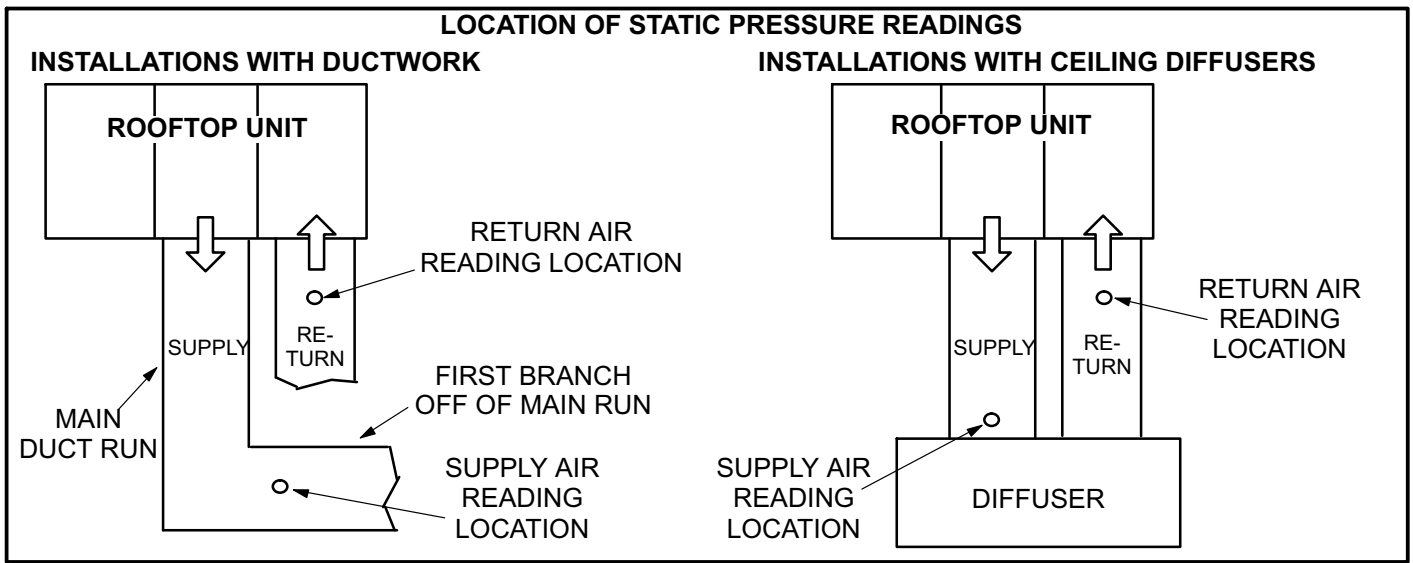

FIGURE 7
- 2- With all access panels in place, measure static pressure external to unit (from supply to return). Pressure tap locations should be approximately one foot from openings. See figure 7.